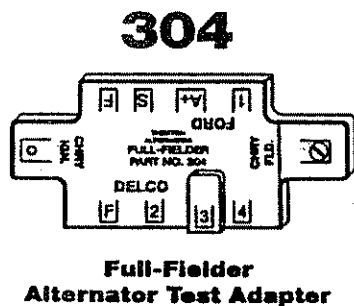

Fig. 7
8. Take the regulator out of the system by using the 304 or 342 Full Fielder Alternator Adapters (See Fig. 7 & 8).